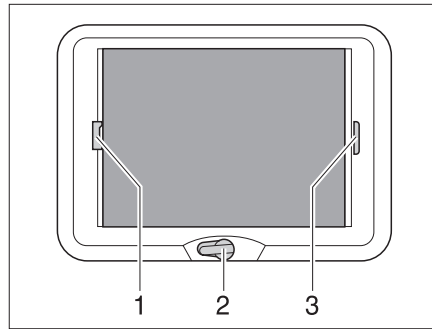

Fig. 51 Wind-up skylight
- Opening:* ■ Rotate the hand crank (Fig. 51,2) until a resistance can be felt (max. opening angle 70°).
- Closing:* ■ Pull the handle of the Roman shade (Fig. 51,3) and release in the desired position. The Roman shade will stay in that position.
- Closing:* ■ Pull insect screen at the handle (Fig. 51,1) to the opposite handle of the Roman shade (Fig. 51,3) and allow to engage.
- Opening:* ■ Press the handle of the insect screen (Fig. 51,1) at the back upwards and detach the insect screen from the Roman shade (Fig. 51,3).